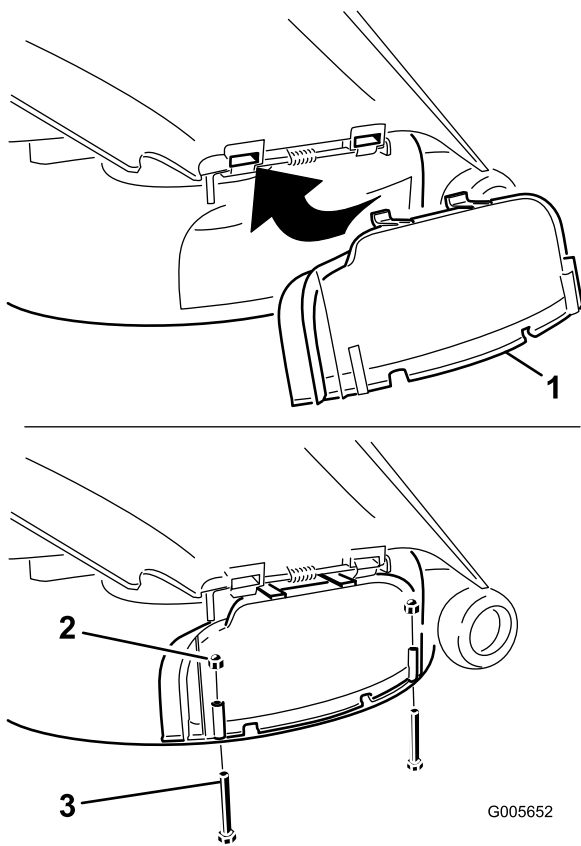

Figure 24
5. Rotate the discharge cover down over the opening, and onto the lower lip of the mower (Figure 24).
6. Secure the discharge cover to the lower lip of the mower with 2 bolts (1/4 x 2-1/2 inches) and 2 cap nuts (1/4 inch) as shown in Figure 24.